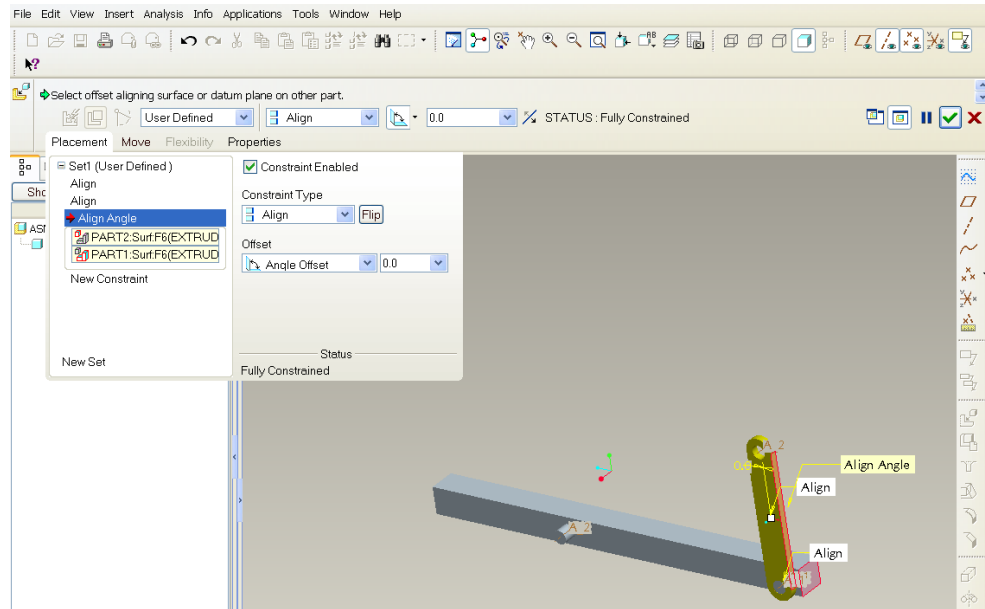

Figure 5
- f) Add one more constraint to make part2 perpendicular to part1 though the assembly is fully constraint. Open Placement panel and click on New Constraint. Pick 2 surfaces highlighted as shown in figure 5 for Align Angle Offset equal to zero as shown in figure 5.